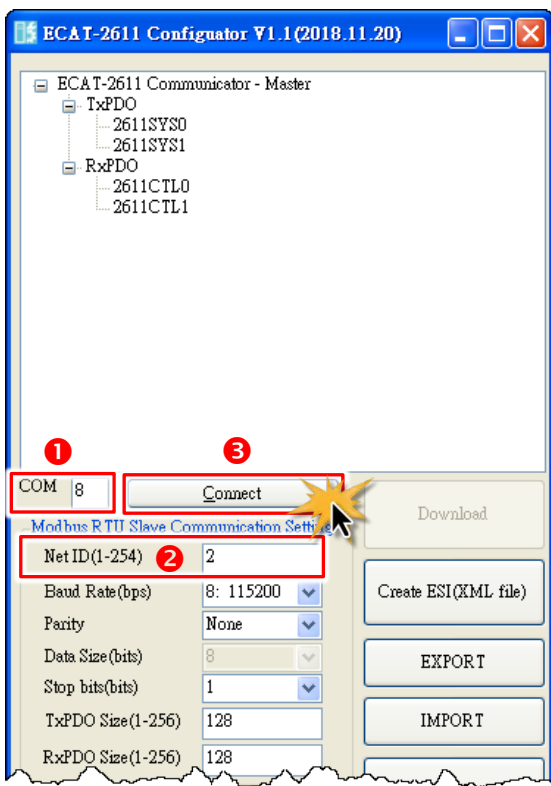

Figure 5-1.4
- ❶ Modify COM Port number in the “COM” field that depends on the Host PC COM Port (e.g., COM8) that connects to ECAT-2611, see figure 5-1.4.
- ❷ Select the appropriate **Net ID, Baud Rate, Data Format and TxPDO/RxPDO size** settings from the field and relevant drop down options, see figure 5-1.4. (e.g., modify the Net ID to 2)